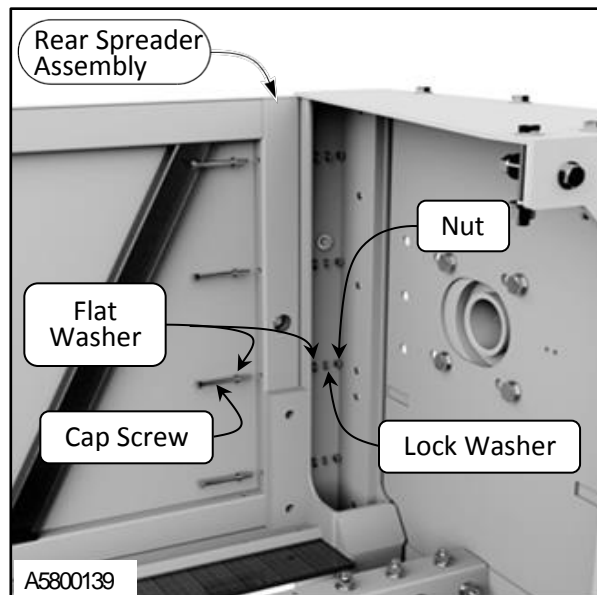

Figure 14
- b. Install the ends of the rear spreader to the side columns using (4) $\frac{3}{8}$ -16 x 4-in. Long Hex Head Cap screws, (4) $\frac{3}{8}$ in. Lock Washers, and (8) $\frac{3}{8}$ -in. Flat Washers. (See Figure 14)